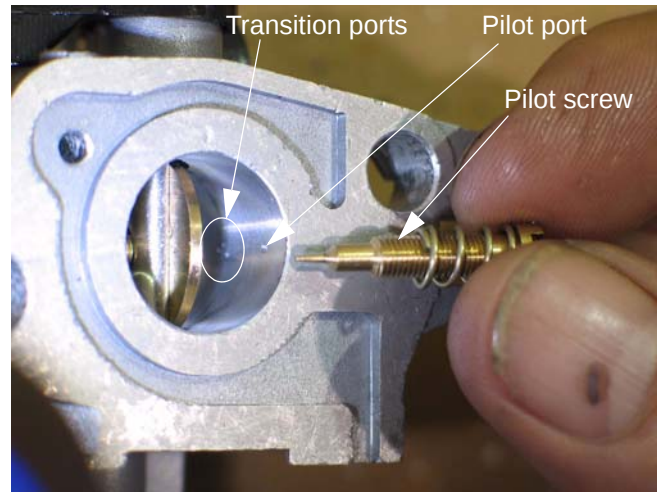

Figure 8.36
8.36. The pilot screw regulates how much of this pre-mixed fuel/air emulsion is allowed to enter the throat of the carburetor, to atomize down-stream of the throttle plate. See Figure 8.36.